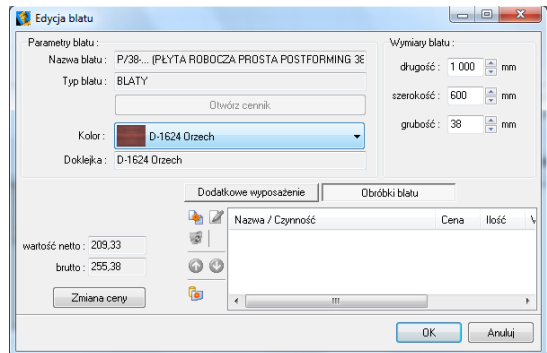

Fig. 309 – worktop edition
- go to the worktop processing (Fig. 309);